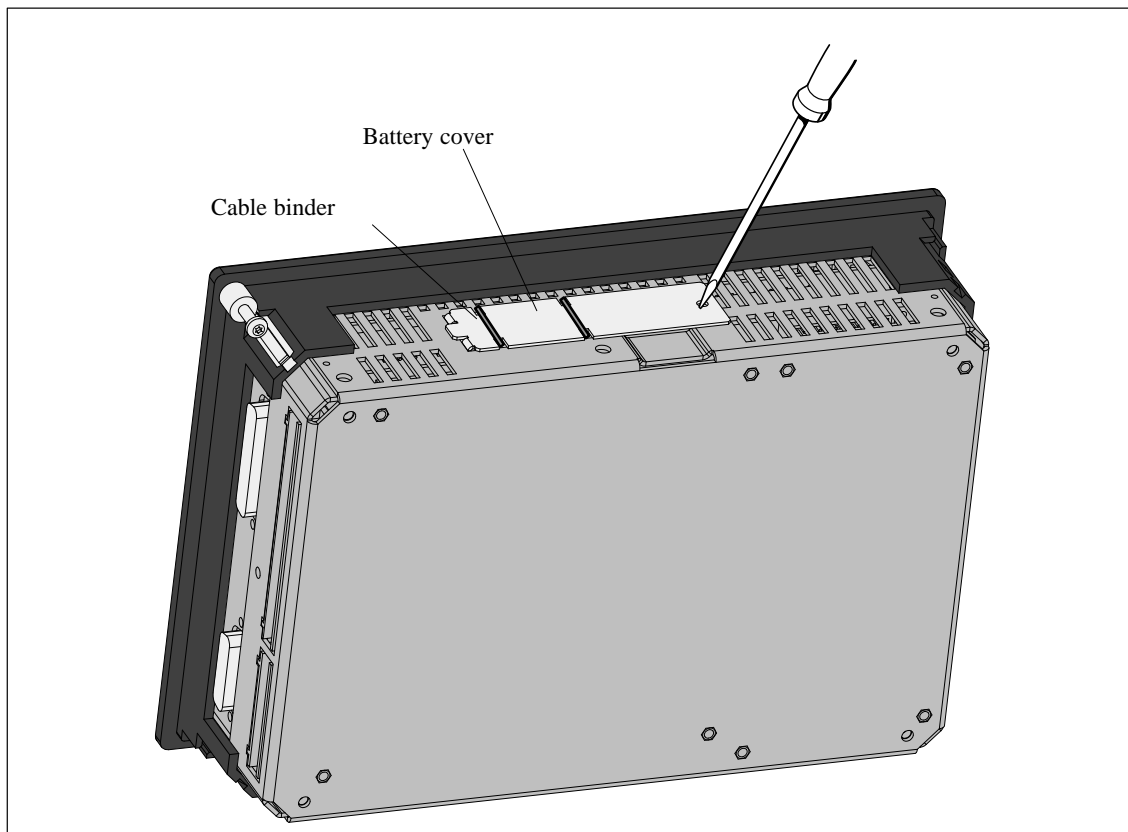

Figure 8-1 Battery Cover Before Opening
1.	Unscrew the cover of the C7 battery compartment (see Figure 8-1).